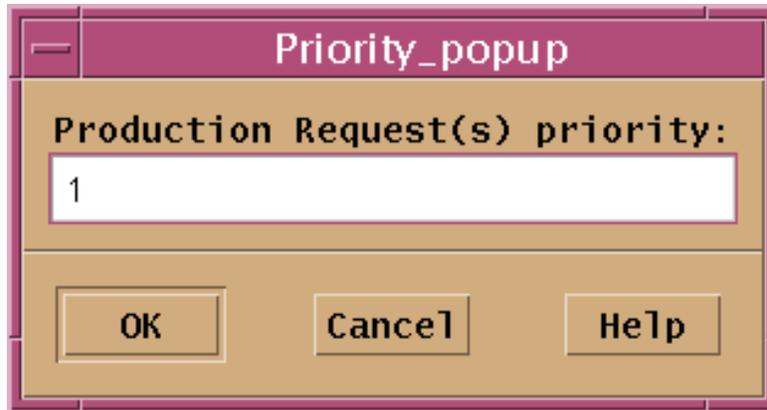

Figure 34. Planning Workbench Priority Popup Window
- The **Priority popup** window (Figure 34) is displayed.